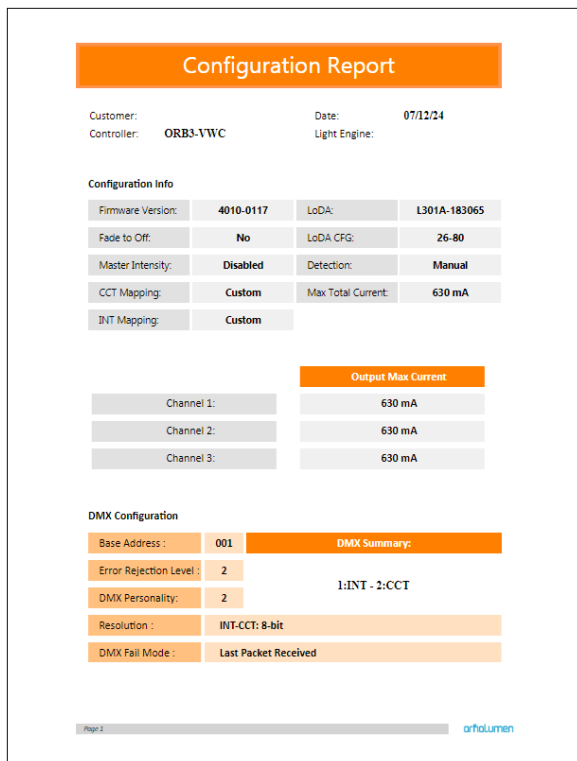

Figure 19: Example of the first page of a generated report
5. Click **Generate Report**, the default web browser will open and display a preview of the print (shown in Figure 19).